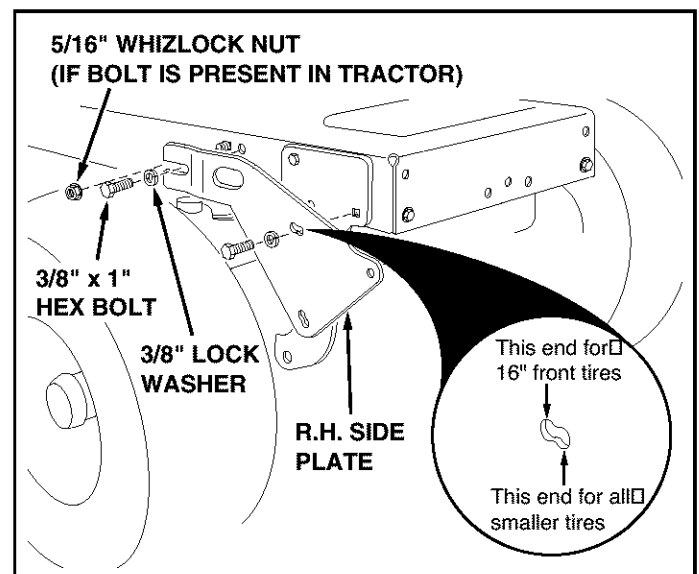

FIGURE 2
- Assemble the R.H. Side Plate (marked "R") to the two now empty holes in the side of the tractor frame. Use two 3/8" x 1" hex bolts and 3/8" lock washers as shown in figure 2. Repeat for the L.H. side.